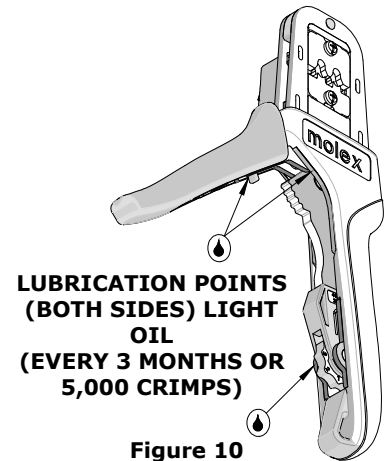

Figure 10
3. Make certain all pins, pivot points and bearing surfaces are protected with a thin coat of high-quality machine oil. Do not oil excessively. The tool was engineered for durability, but like any other equipment, it needs cleaning and lubrication for a maximum service life of trouble-free crimping. Light oil (such as 30 weight automotive oil) used at the oil points every 5,000 crimps or 3 months will significantly enhance the tool life. See Figure 10.